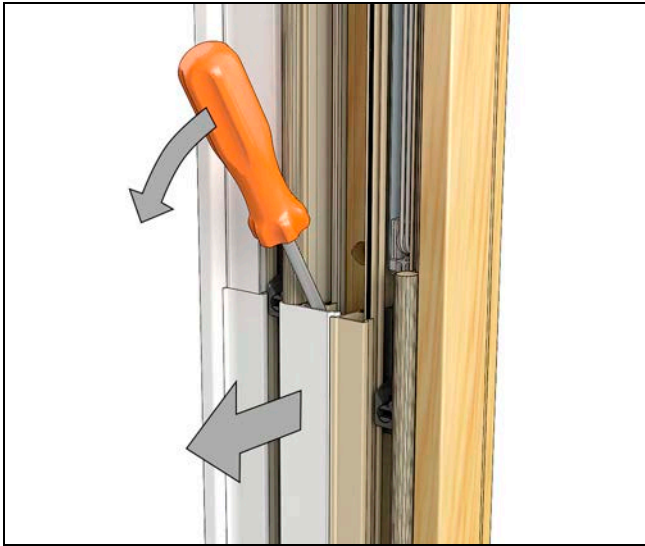

Figure 25
4. Using screwdriver, pry behind aluminum/vinyl mid cover assembly to release it from frame. See Figure 25.